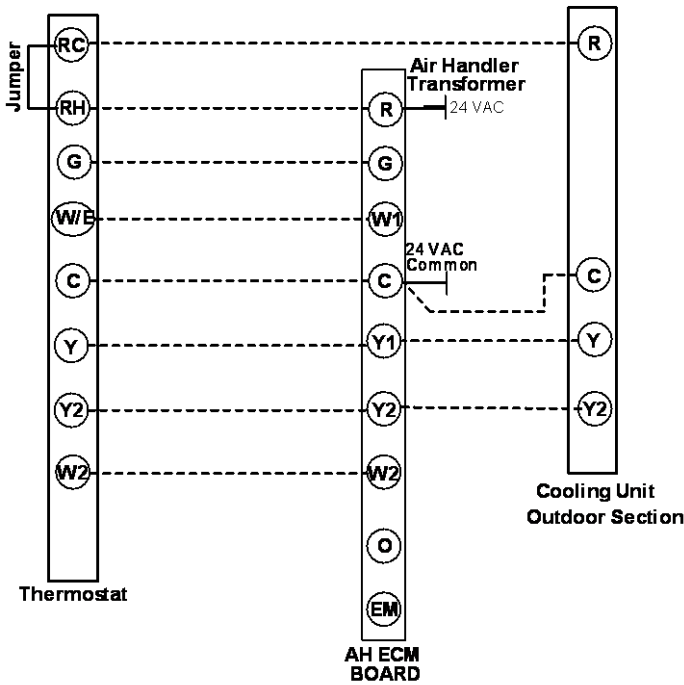

Figure 27: Typical Two Stage Heat with Two Stage Split System Cooling
- 4 Remove the screws on the right side and the screws on the left side of the blower mounting plate. Refer to Figure 27 for screw locations.
- 7 Remove the blower motor from the blower housing by removing the three (3) screws on the sides of the housing that secure the blower to the housing
- 9 Place the motor into the housing so the mount leg holes line up with the rivet nuts in the housing. Place the three (3) screws into the mount leg holes and tighten until the mount legs are securely fastened to the housing.